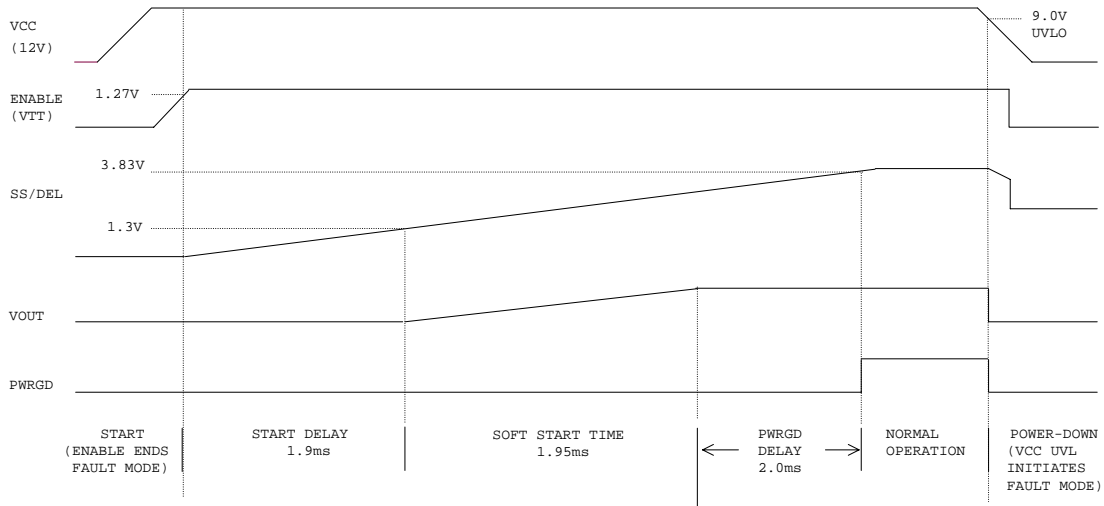

Figure 10 – Start-up Waveforms
The IR3082 has a programmable soft-start function to limit the surge current during the converter start-up. A capacitor connected between the SS/DEL and LGND pins controls soft start as well as over-current protection delay and hiccup mode timing. A charge current of 66 μ A and discharge current of 6 μ A control the up slope and down slope of the voltage at the SS/DEL pin respectively. Soft start-up waveforms are shown in Figure 10.
The SS/DEL pin voltage controls the slew rate of the converter output voltage, as shown in Figure 10. After the $ENABLE$ pin voltage rises above 1.23V, there is a soft-start delay time t_{SSDEL} , after which the error amplifier output is released to allow the soft start. The soft start time t_{ss} represents the time during which the output voltage rises from zero to V_o . t_{ss} can be programmed by an external capacitor, which is determined by Equation (1).